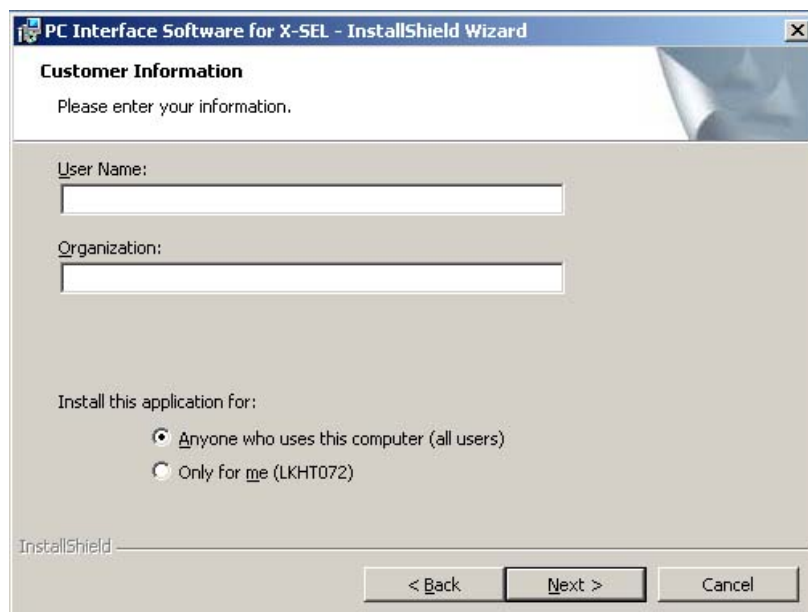

Fig. 1.4 Customer Information Registration
- [5] Customer information register window (Fig. 1.4) is displayed. Enter customer information and click **Next >**.